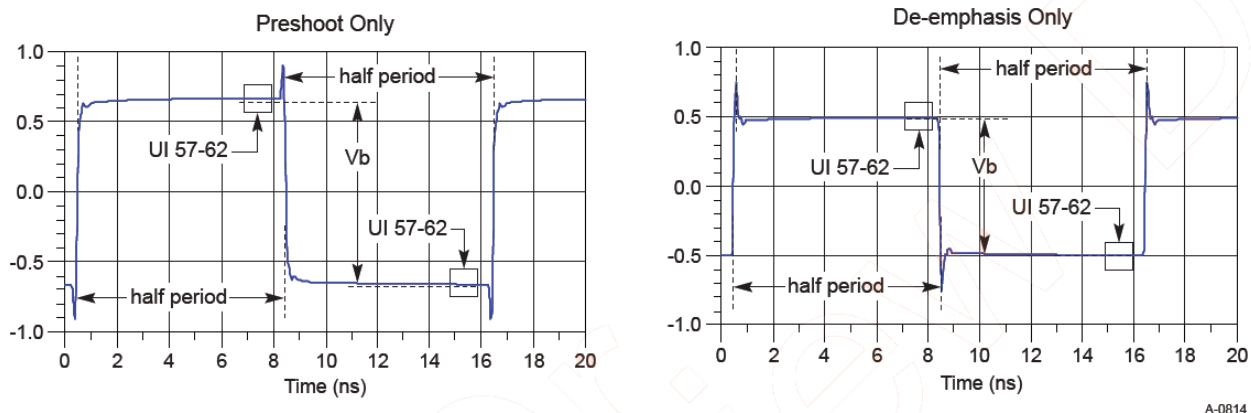

Figure 103 Waveform measurement points for preshoot and de-emphasis
8.0 GT/s, 16.0 GT/s and 32.0 GT/s PCIe signaling must support the full range of presets given in Table 8-1 (PCIe Base Specification Revision 5.0). Presets are defined in terms of ratios, relating the pre-cursor and post-cursor equalization voltages. The pre-cursor (V_c) is referred to as pre-shoot, while the post-cursor (V_b) is referred to as de-emphasis. This convention permits the specification to retain the existing 2.5 GT/s and 5.0 GT/s definitions for Tx equalization, where only de-emphasis is defined, and it allows preshoot and de-emphasis to be defined such that each is independent of the other. The tolerances in Table 8-1 (PCIe Base Specification Revision 5) also apply to 2.5 and 5.0 GT/s de-emphasis. The maximum swing, V_d , is also shown to illustrate that, when both c_{+1} and c_{-1} are nonzero, the swing of V_a does not reach the maximum as defined by V_d . The high frequency nature of PCIe signaling makes measurement of single UI pulse heights impractical. Consequently all amplitude measurements are made with low frequency waveforms as shown in Figure 103.